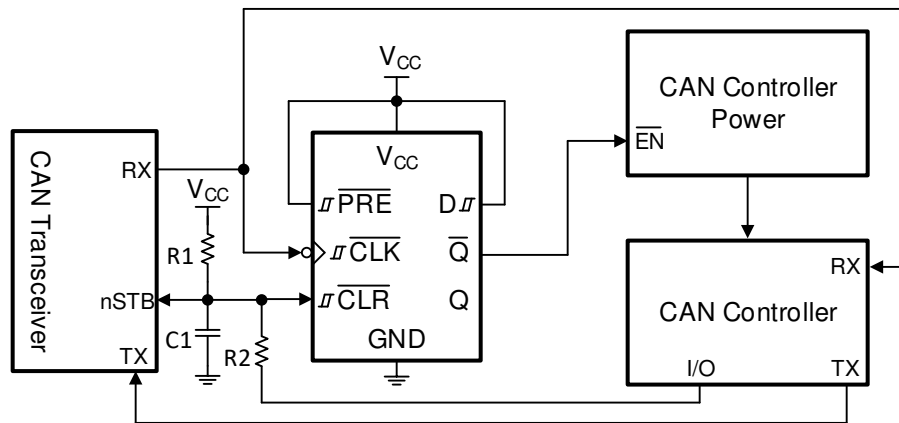

图 12. Power Enable Using CAN Wake-up Request
With the SN74HCS72, a power on reset circuit only requires a resistor (R) and capacitor (C) to create a delay. The R and C values create a delay that is approximately  $2.2 \times RC$ . In this application, it is desired to have the output ( $\bar{Q}$ ) in the HIGH state at startup, so R1 and C1 are connected directly to the CLR pin, as shown in 图 12. A second resistor is needed to limit the current into the CAN controller when it sets the circuit back into standby mode. It is required for the R1 resistor to be at least ten times larger than R2 to avoid a divider circuit ( $R2 \leq 10R1$ ).